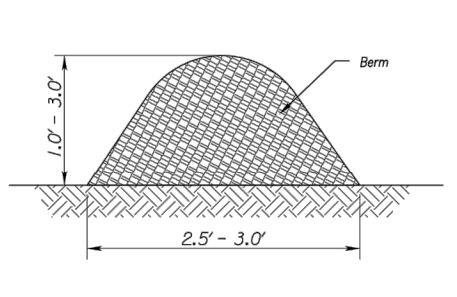
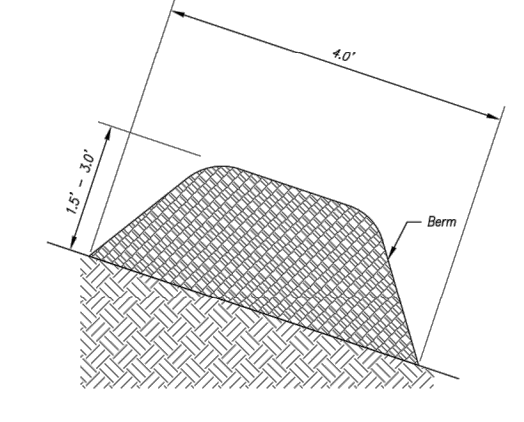

Figure 1
Figure 2
- Parallel to the base of the slope, or around the perimeter of other affected areas, construct a 1 to 3 feet high by 2.5 to 3 feet wide berm (See Figure 1). For maximum water treatment ability on for steep slopes, construct a 1.5 to 3 foot high impervious berm that is a minimum of 4 feet wide at the base (see Figure 2). In extreme conditions, or when specified by the engineer, a second berm shall be constructed at the top of the slope. Engineer will specify berm requirements.